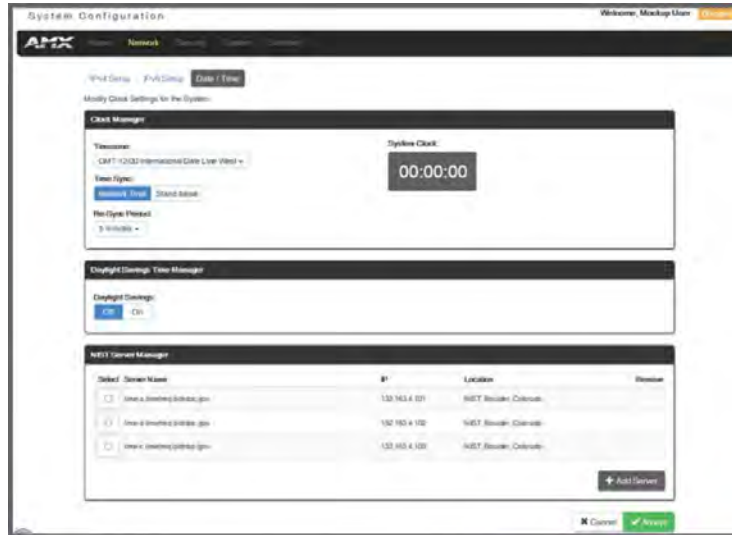

FIG. 153 System Configuration interface - Network > Date / Time
2. From the Network drop-down menu, select **Date / Time** (FIG. 153):